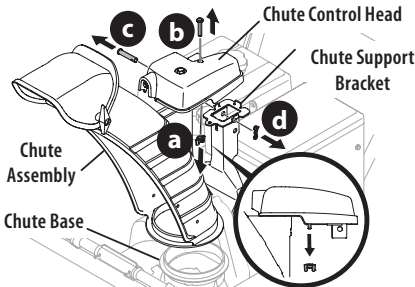

Figure 7
1. Remove wing nut (or locknut if equipped) (a) and hex screw (b) from chute control head and clevis pin (c) and cotter pin (d) from chute support bracket. Position chute assembly (forward-facing) over chute base and chute support bracket (Figure 7).